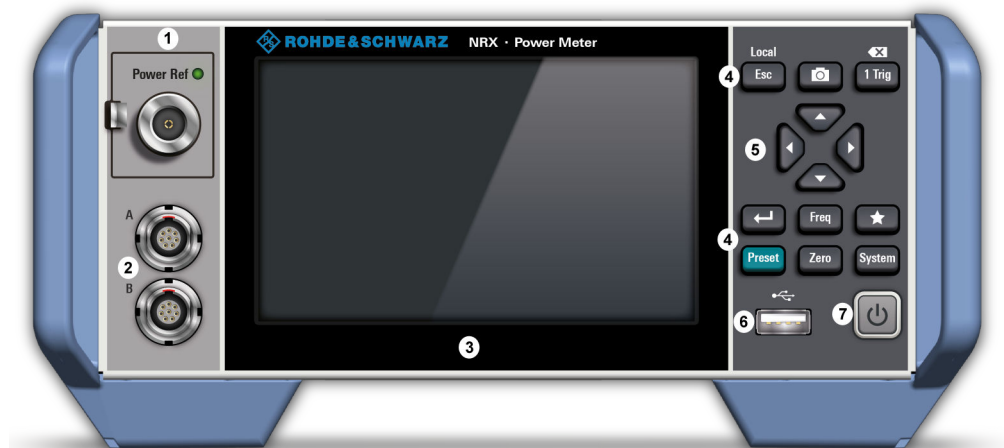

Figure 5-1: Front View of R&S NRX
See (2) in Figure 5-1.
See (1) in Figure 5-1.
See (3) in Figure 5-1.
See (4) in Figure 5-1.
See (5) in Figure 5-1.
See (6) in Figure 5-1.
See (7) in Figure 5-1.